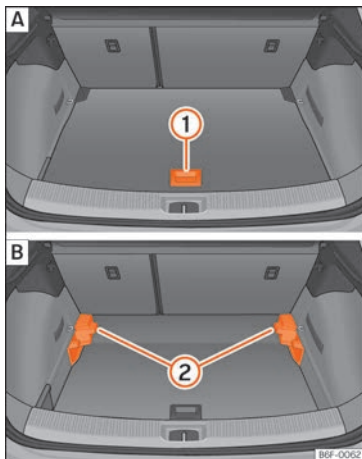

Fig. 110 Variable luggage compartment floor:
- To move from the low position to the high position, lift the floor using the handle »» Fig. 110 ①, and pull it back until the front of the floor has fully passed the supports ②.
- Move the floor forward over the supports as far as the rear seat backrest and then lower the floor with the handle ①.
- To move from the high position to the low position, lift the floor using the handle »» Fig. 110 ①, and pull it back until the front of the floor has fully passed the supports ②.
- Now let the front part fall to the floor and slide the floor forwards as far as the rear seat backrest; lower the floor at the same time with the handle ①.
- Lift the variable floor in the high position using handle »» Fig. 110 ①, pull it up and push it towards the backrest of the rear seats until it folds along the hinge line and the movable part of the floor is resting on itself.